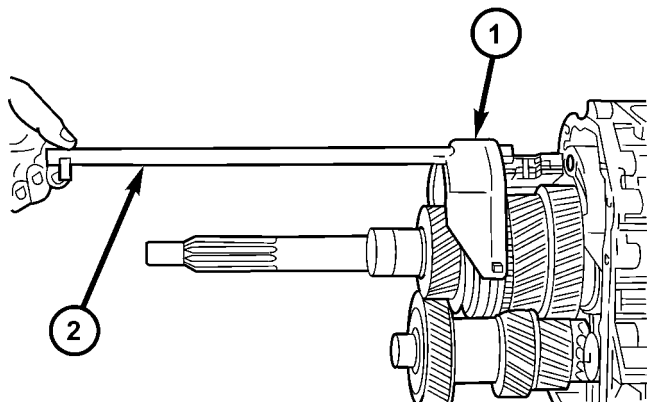
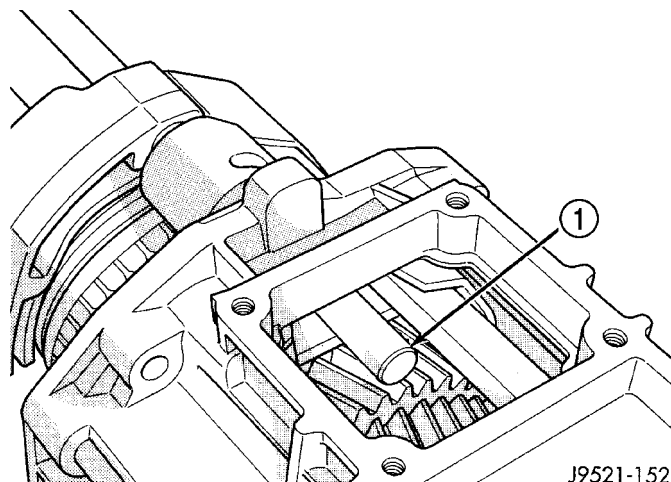

Fig. 107 SHIFT SHAFT
Fig. 108 SHAFT IN LEVER OPENING
(5) Slide shift shaft through forks (Fig. 107) and into shift lever opening in rear housing (Fig. 108).